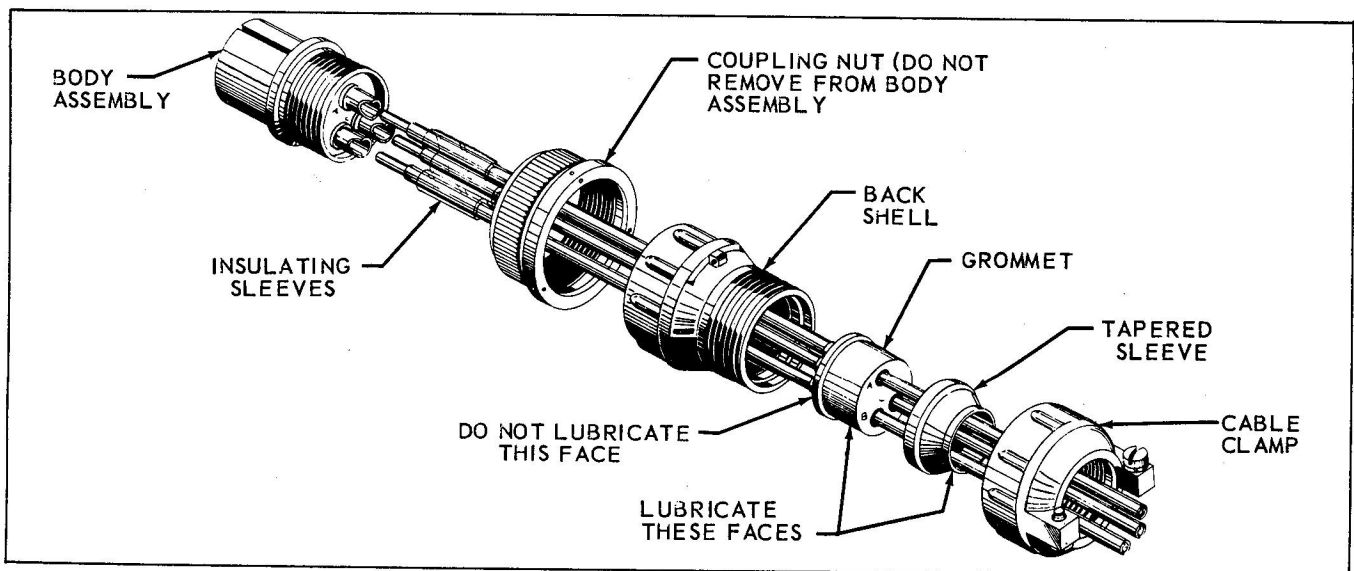

Figure 3-53. Installation of Bendix Class E Connector
- b. Check tapered sleeve and grommet for thin film petrolatum lubricant on indicated surfaces. (See Figure 3-53.)